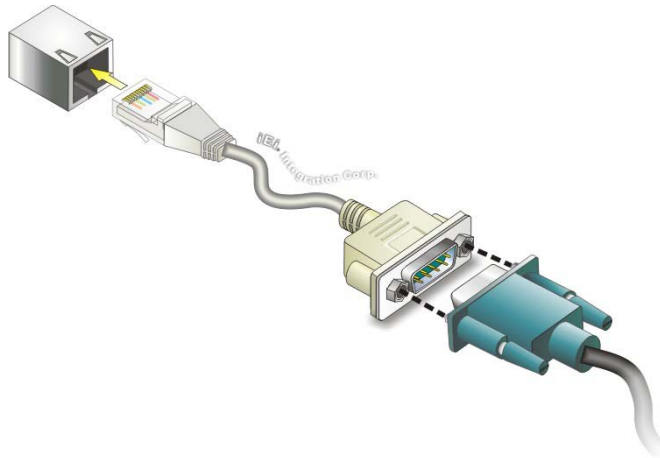

Figure 3-20: RJ-45 RS-422/485 Serial Device Connection
Step 2: **Insert the RJ-45 connector.** Insert the RJ-45 connector on the RJ-45 to DB-9 COM port cable to one of the RJ-45 RS-422/485 connectors on the TANK-820-H61. See **Figure 3-20**.